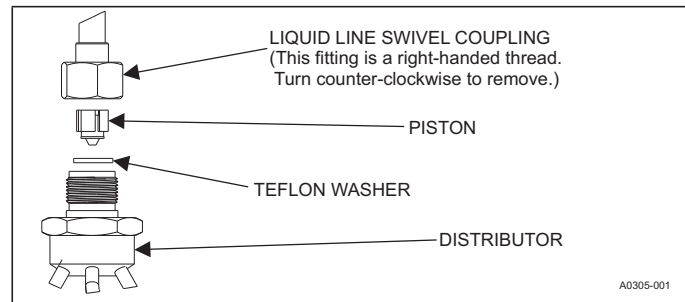

FIGURE 16: Piston Installation
6. Install required size piston into the distributor. Refer to supplied Tabular Data Sheet for specific piston size and indoor coil match up. See Figure 16.
7. Verify that the Teflon washer is still in place in the distributor opening. See Figure 16.